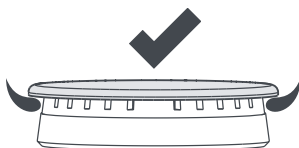

Fig.8 Correct assembly of burner parts
- Positioned correctly as shown in Fig. 8.